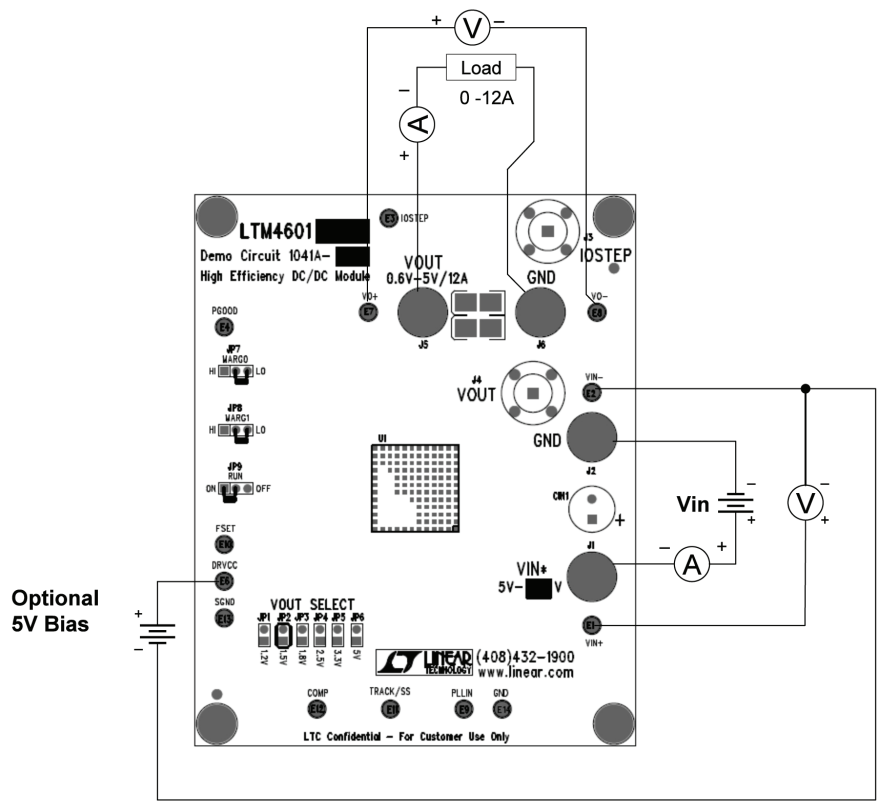

Figure 1. Test Setup of DC1041A-A (DRVCC Bias Supply is Optional)
Demonstration circuit DC1041A-A is an easy way to evaluate the performance of the LTM4601EV. Please refer to Figure 1 for proper measurement equipment setup and follow the procedure below:
1. With the power supply off, connect the input power supply, load and meters as shown in Figure 1. Preset the load to 0A and power supply voltage within the LTM4601's operating input voltage range.